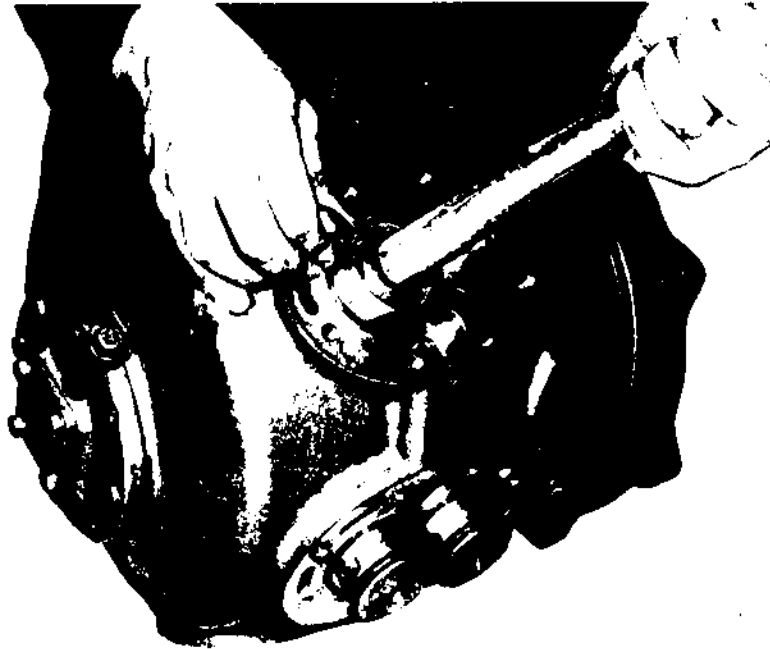

Figure 3-18. Installing Pistons
a. Do not tap piston with hammer if rings are caught at entrance to the cylinder. Using a ring compressor, squeeze rings sufficiently to allow piston to be pushed down into the cylinder. Ensure that ring ends are staggered so that the gaps are not aligned, and lightly tap piston down into the cylinder. (See figure 3-18.) The ring compressor can be easily fabricated from a piece of sheet metal.